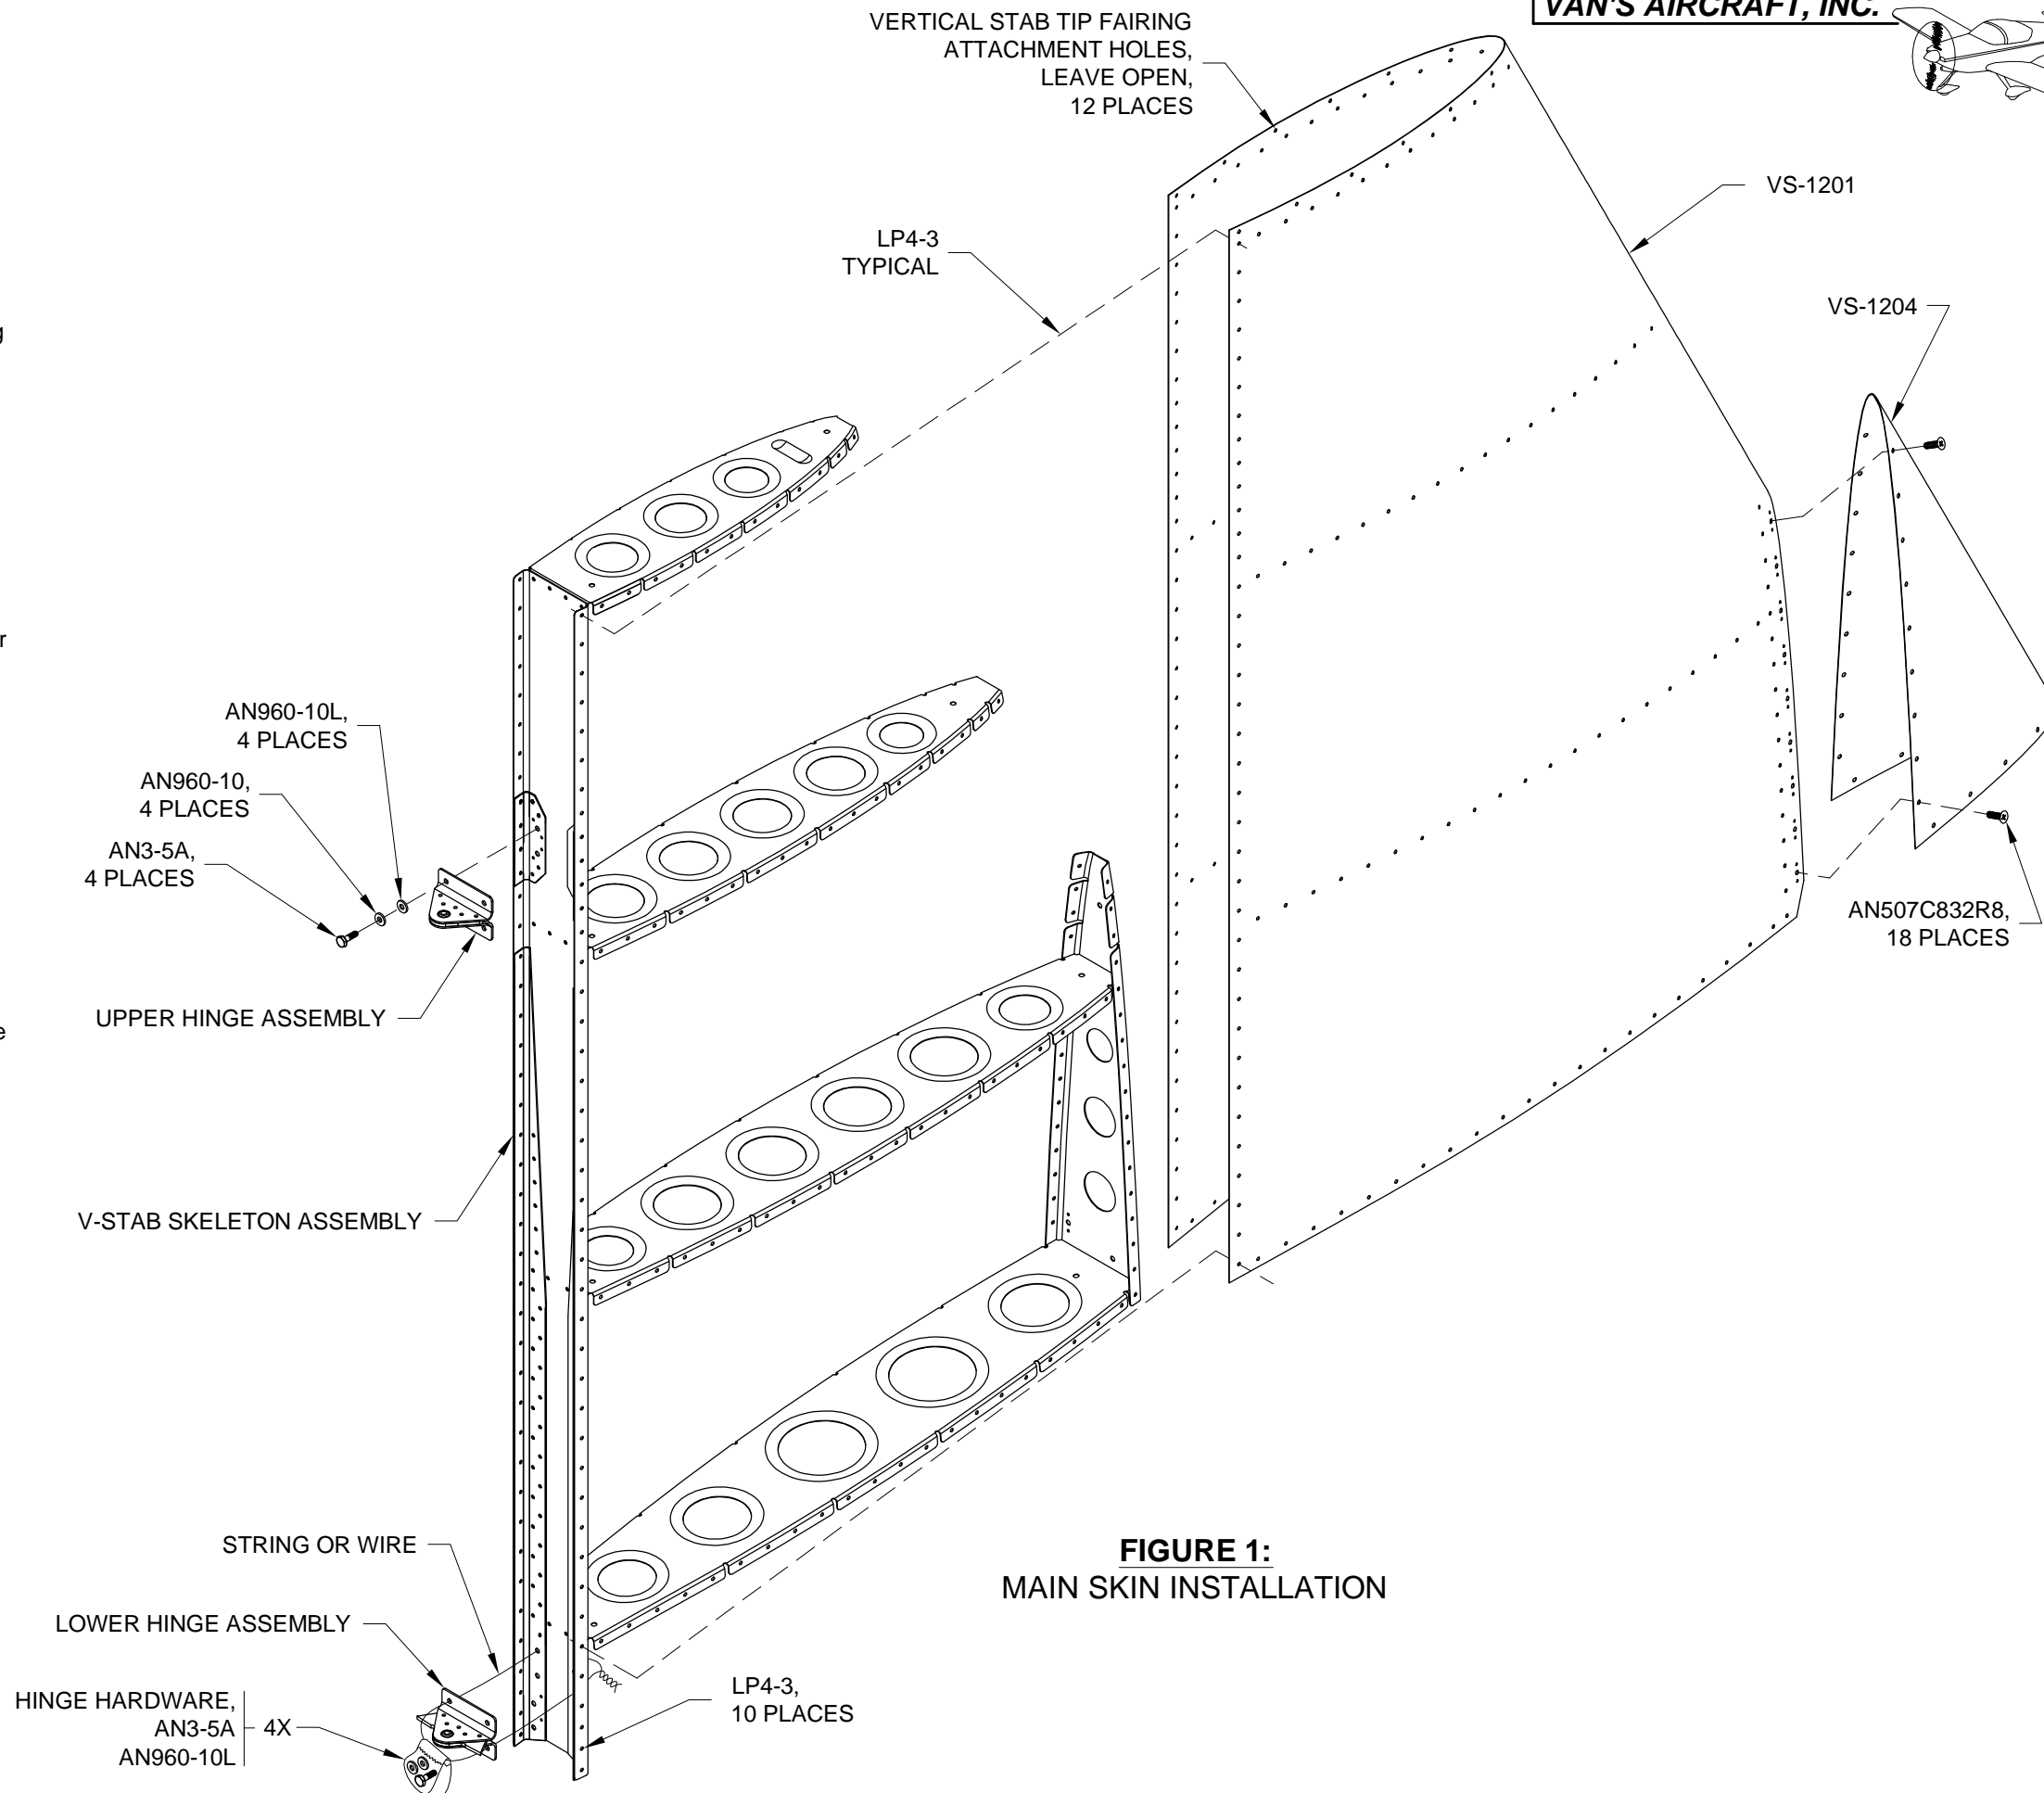

FIGURE 1:
Step 4: Screw the VS-1204 Fwd Skin to the nutplates at the front of the V-Stab Assembly using the hardware called out in Figure 1. The bottom eight holes in the fwd skin are left open until the V-Stab Assembly is installed to the Tailcone Assembly.
Step 5: Bolt the Upper Hinge Assembly to the V-Stab Assembly using the hardware called out in Figure 1.